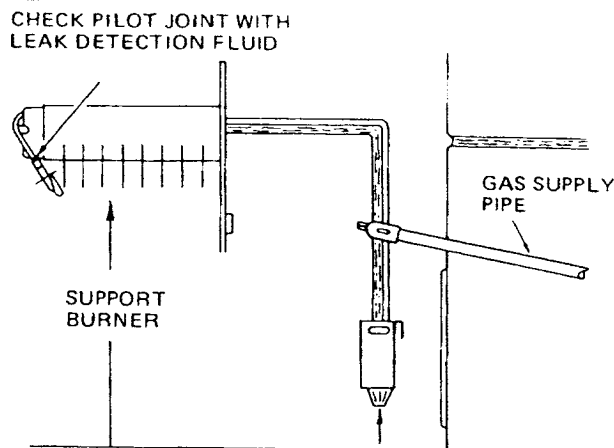

FIG. 14 LEFT HAND VIEW OF BURNER (Case Removed)
- 1) Support the burner as shown in Fig.14, and tighten the union at the gas service cock.